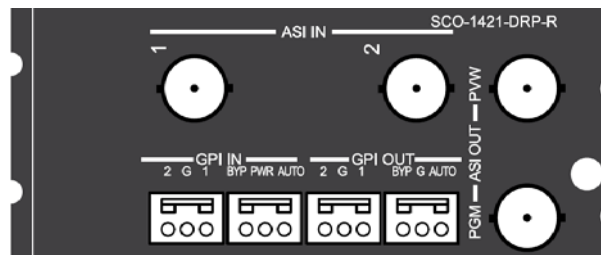

Figure 2.1 SCO-1421-DRP-R Rear Panel
- SCO-1421-DRP-R Rear Panel (see figure 2.1)